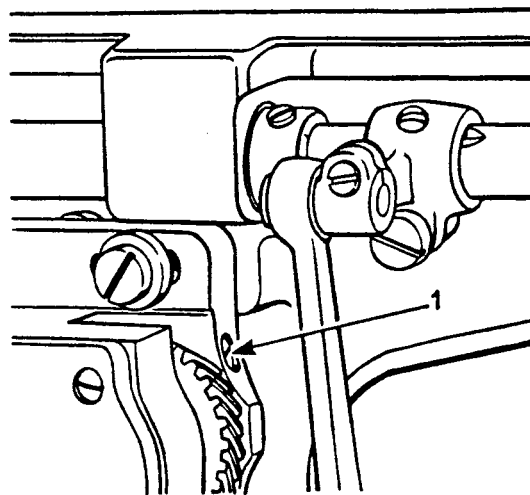

Figure 8
1. Tip machine and loosen control valve set screw 1 shown in Figure 8 and return machine to upright position.